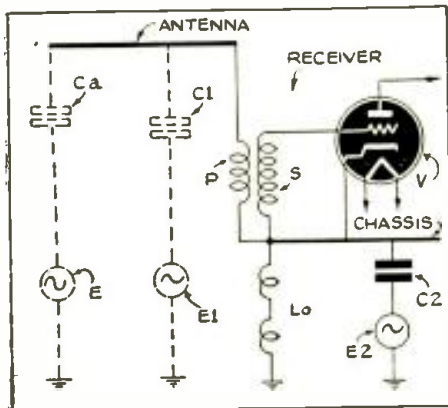

Fig. 1
Fig. 1. The complete circuit of this receiver is shown on pg. 159A. To achieve high-fidelity response it incorporates circuit features as follows: (1) Link circuit in preselector system to provide adequate attenuation against image response, I.F. heterodyne combinations, and cross-modulation (circuit A, above). (2) Inverted-feedback with push-pull amplifier (B, above). (3) Temperature-compensated oscillator circuit to offset frequency drift and consequent distortion (C, above). (4) Fidelity range extended at both low and high ends. (5) Pushbutton tuning for 8 stations to insure accurate adjustment to exact frequency. (6) Magnetite-tuned transformers to give permanent and stable tuning of I.F. system. (7) Selectivity control to provide for varied conditions of use. (8) Aurally-compensated volume control to correct for ear characteristics at lower volume levels. (9) Phonograph input jack (at rear, but controlled from main switch on cabinet); utilizes the high-fidelity A.F. system of the set to "play" high-quality phono records.
Observe the first set (Fig. 1) which instead of the usual off and on switch apparently has no switch at all—but instead has a *key*. You insert the key which turns the set off or on just as the knob did, but unless you have a key that fits you cannot operate the set.
Consider the equivalent circuit of a radio set represented schematically in Fig. 1. The antenna can be considered as a generator E, in series with condenser Ca, which forces a current through the primary P of the input transformer PS to the first tube V of the set. The current will continue to earth via the ground lead, having distributed inductance Lo and also via the power supply line through the capacity C2 which is an actual condenser in many sets or simply the capacity between windings of the power-pack transformer. In A.C.-D.C. sets there is a solid metallic connection.